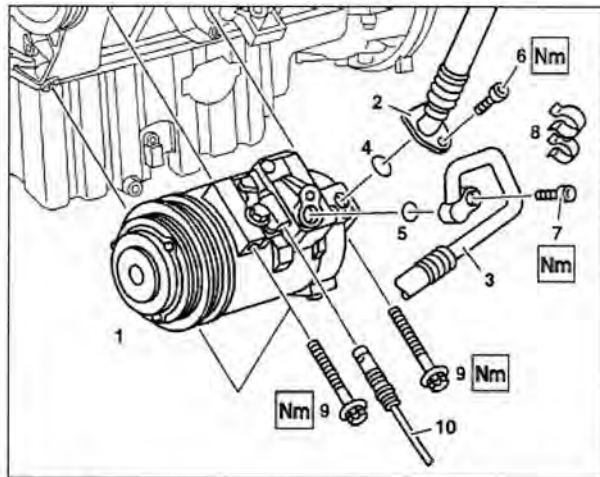

Figure 15
28. Disconnect connector (10, Figure 15) from A/C compressor (1, Figure 15).